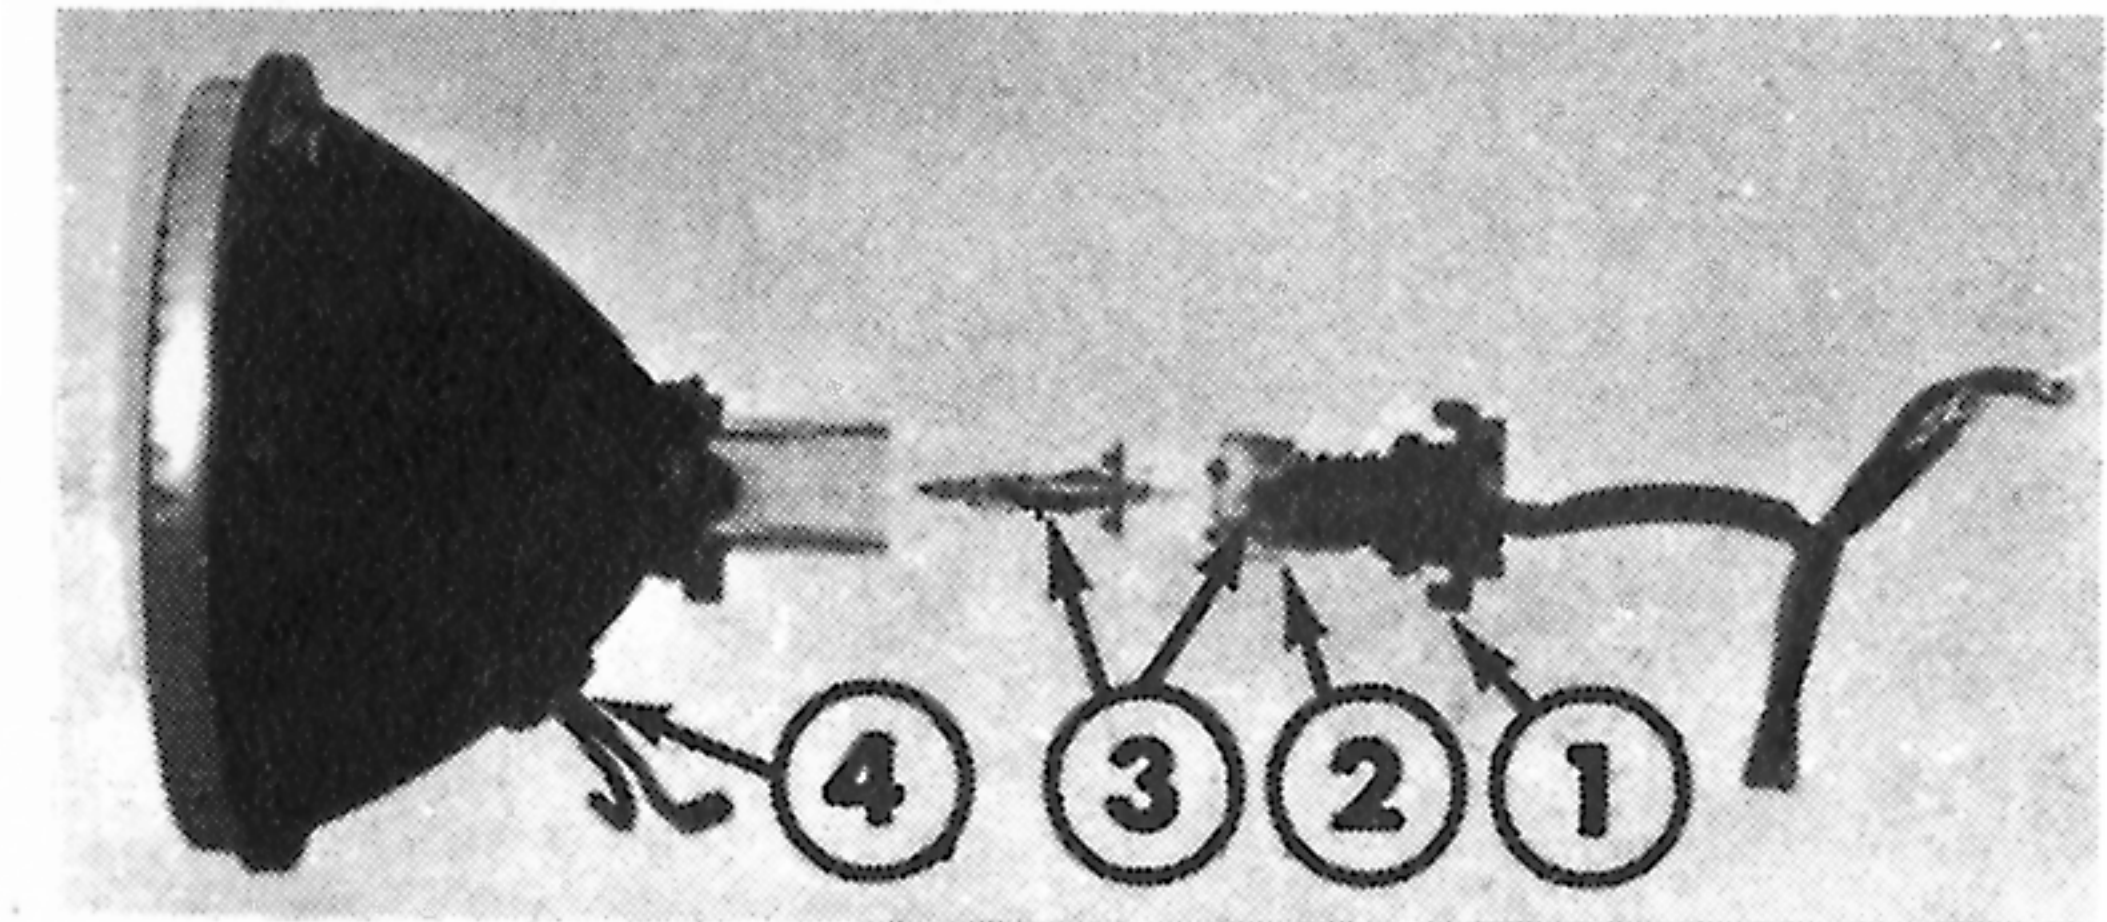

Fig. 39 - Main beam/Dipped (large diameter)
A. "Marchal" component (Fig. 39).